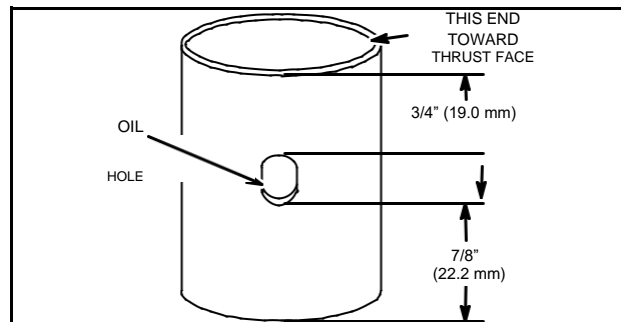

Fig. 14 – DU Bearing Part #231180
**NOTE:DU bearing**, Part #231180, for vertical crankshaft engines must be installed with 3/4" (19.0 mm) offset toward thrust face, Fig. 14.